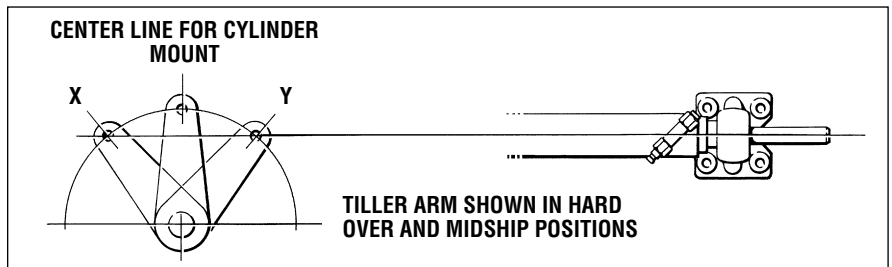

Figure 6.
- 1 To achieve MAXIMUM cylinder performance it is suggested that an imaginary line is drawn through the tiller arm hole at both hard over positions (see figure 6), this will create the “cylinder center line”. With the tiller arm at hard over positions, angle X and Y should be the same.